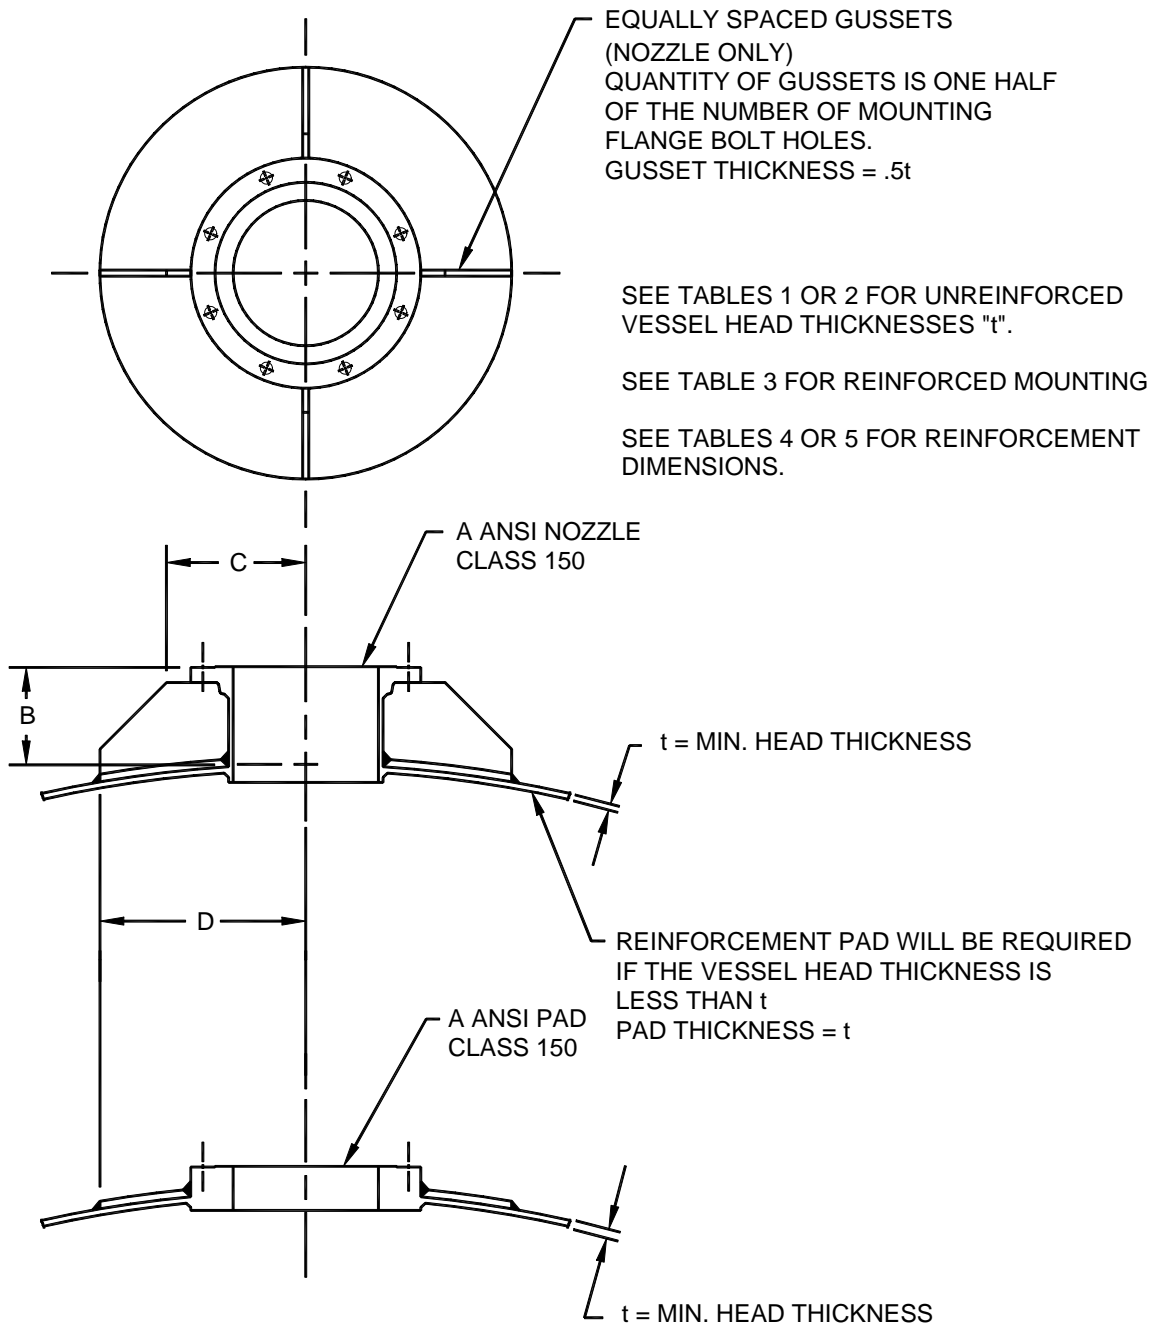

Figure 2: Models 60DTA, 60DTL Mounting, Nozzle/Pad
3. If reinforcement is applicable, refer to *Tables 4 and 5, below and Figure 2, page 6* for proper reinforcement dimensions.